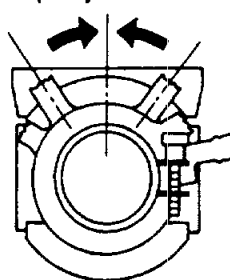

Fig. 2
2. Loosen the deflection yoke mounting screw, and set the purity control to the center as shown in Fig.2.